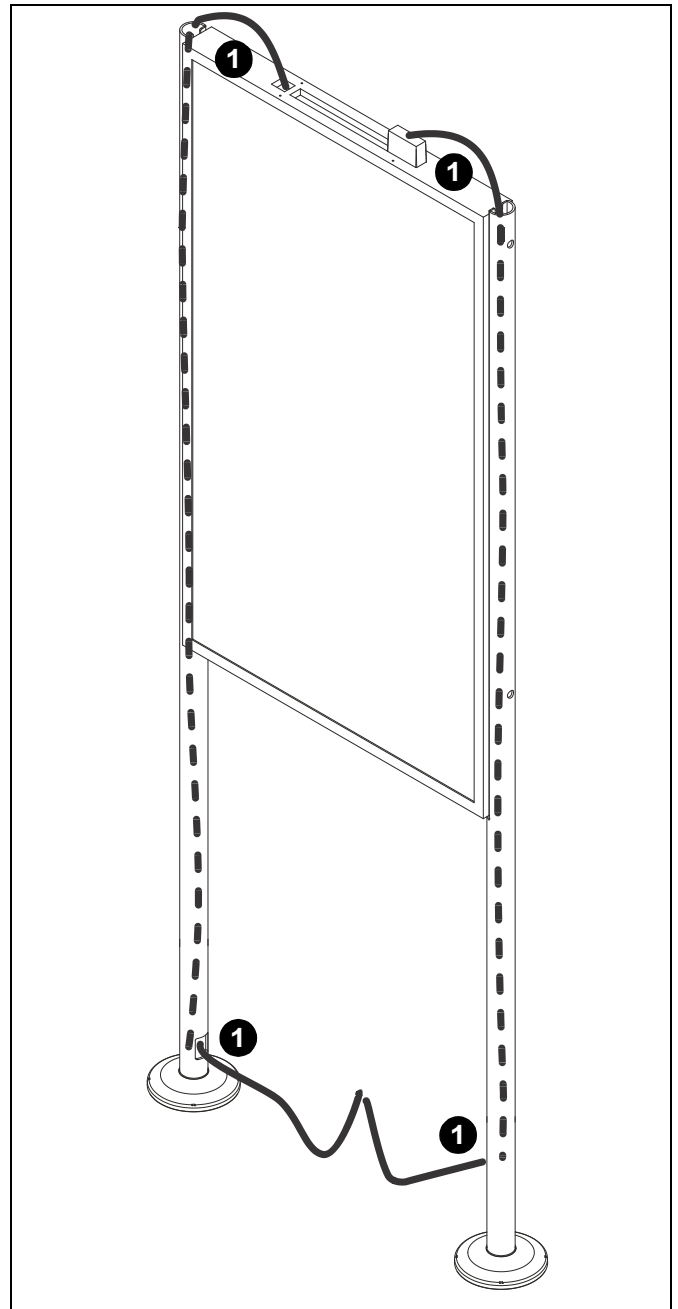

Figure 7
1. Route cables through floor posts (A) as desired. (See Figure 7)